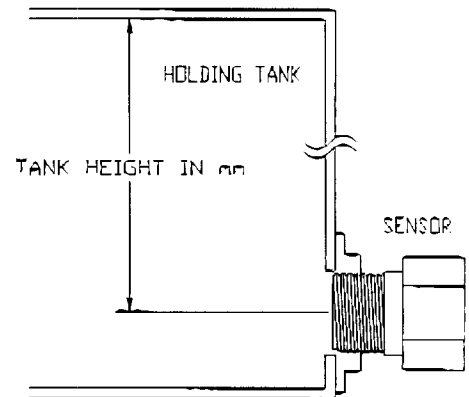
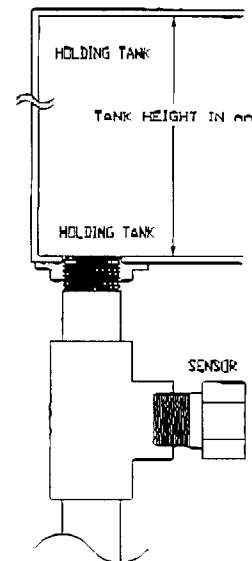

Fig. 8
Fig. 9
1) Measure the tank height from the center of the sensor to the top of the tank (See fig. 8). If the sensor is mounted on a drainpipe or other plumbing, measure the height of the tank per fig.9. The tank height measured must be 36" (914mm) or less.